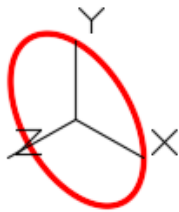

Figure Step 9
Step 9 Change the current view to SE Isometric. (Figure Step 9)